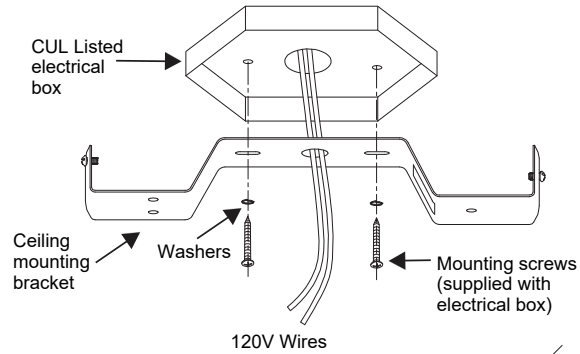

Fig. 4
Step 1. Secure the ceiling mounting plate to the ceiling outlet box using screws and washers included with your outlet box (**Fig. 4**).